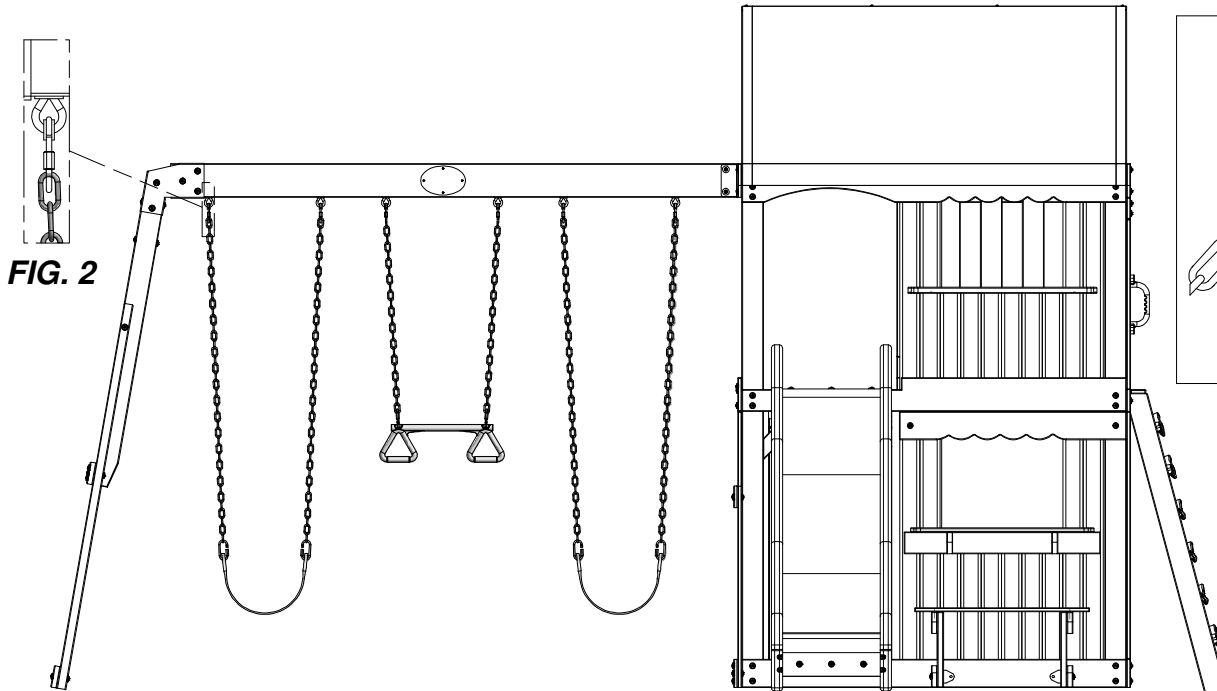
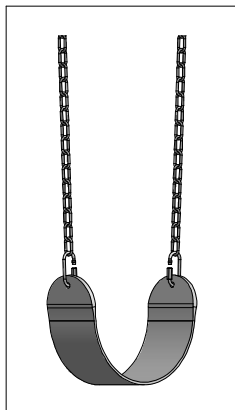

FIG. 2
FIG. 1
**ATTACH FB SWING SEAT TO (2) EZ CHAINS USING (2) FA QUICK LINKS, AS SHOWN (FIG. 1). REPEAT PROCESS TO ASSEMBLE SECOND SWING ASSEMBLY. NOW, ATTACH EZ CHAINS TO SWING HANGER QUICK LINKS ALREADY ASSEMBLED TO THE SWING BEAM (FIG. 2).**